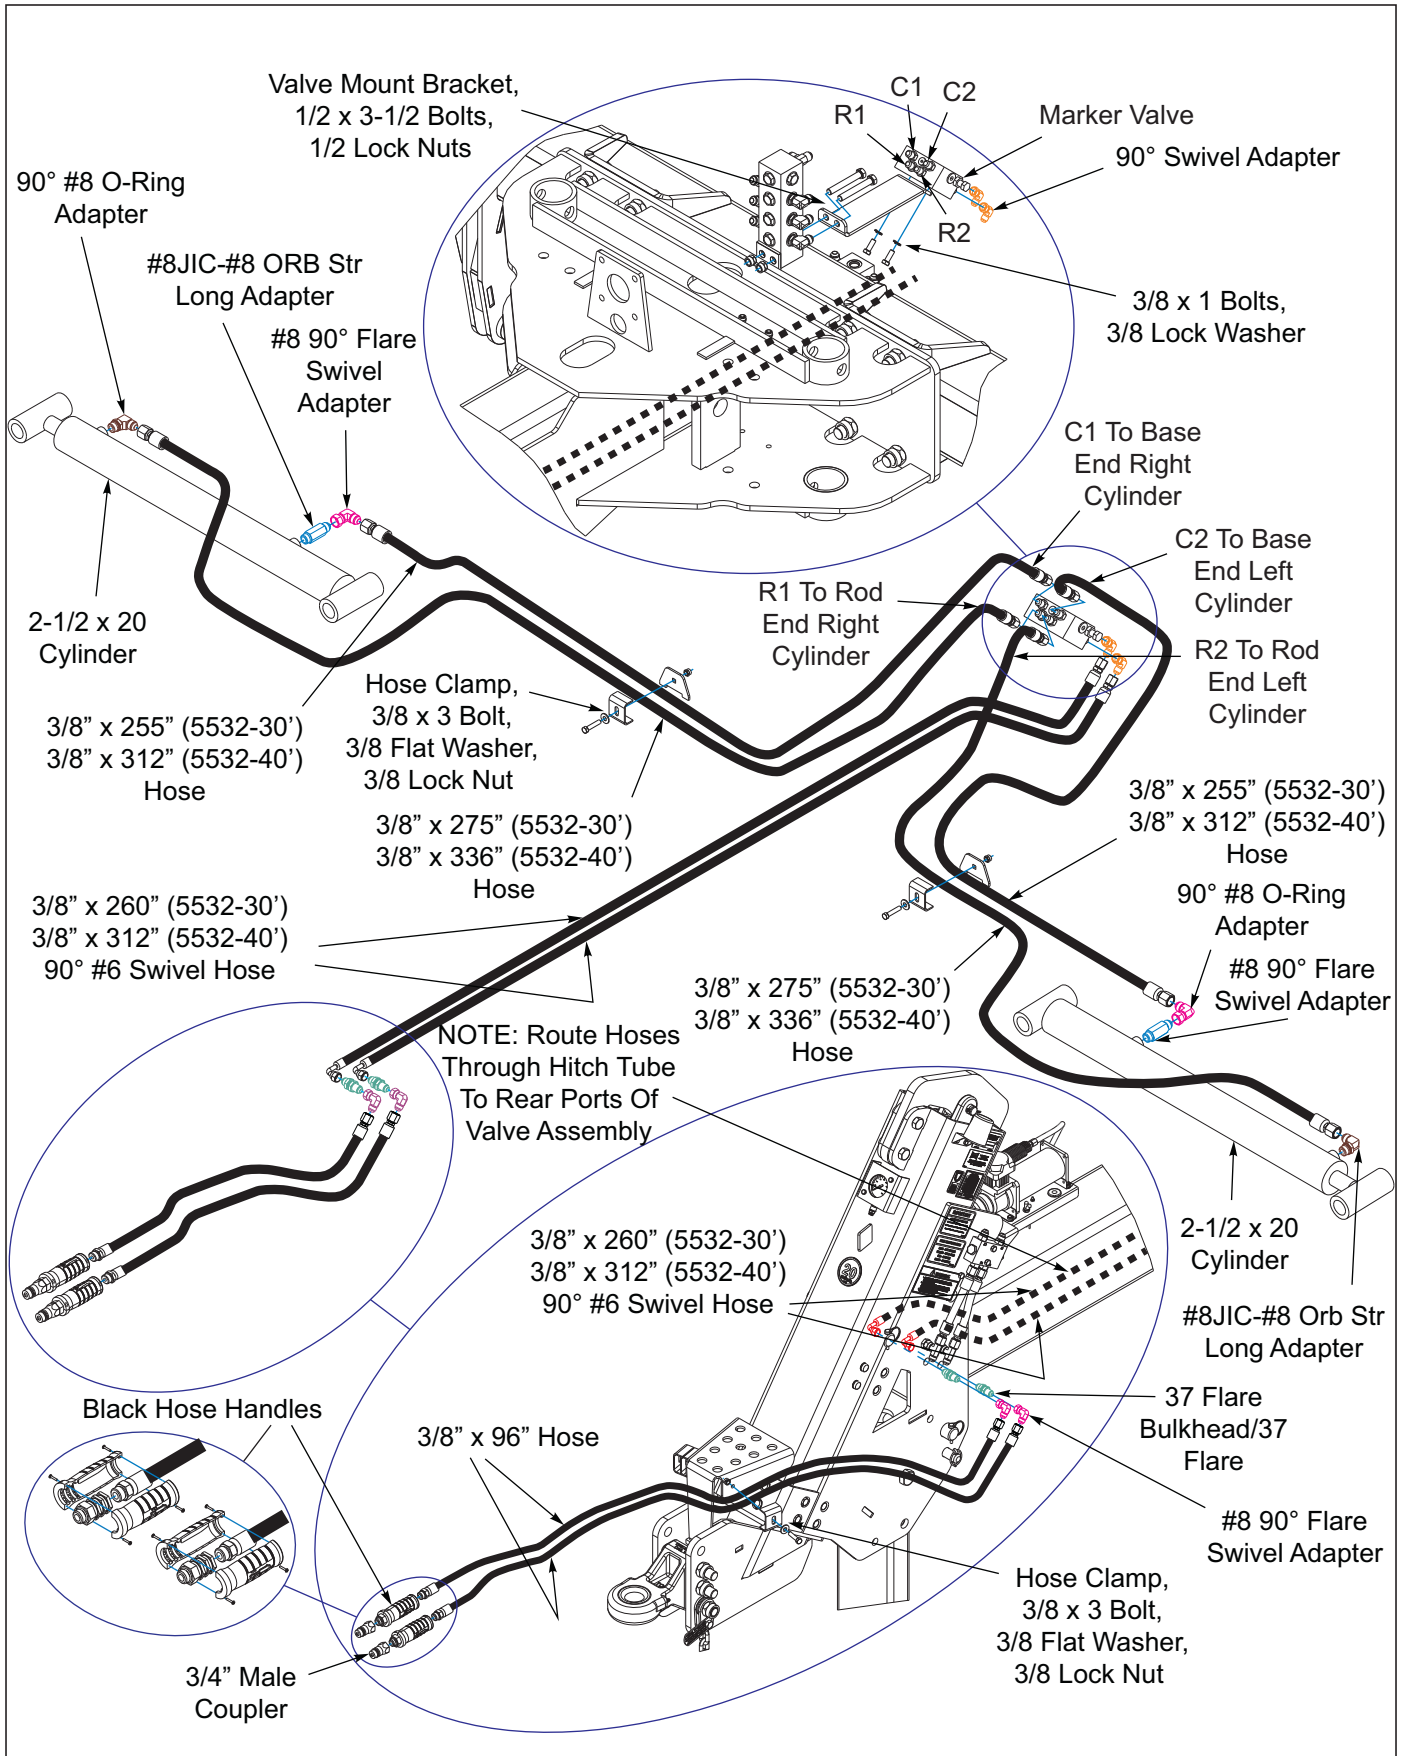

Figure 3-17: Marker Assembly Hydraulics
3. Locate the two unused bulkhead fitting holes on either side of the front of the hitch *See Figure 3-17*. Remove the hydraulic hose shield from that side of the hitch.
30. Install a 90-degree adapter in the rod end of each marker cylinder **See Figure 3-17**.
35. Attach a hose clamp to the left side of the hose holder plate on front of hitch and to rear frame plates using 3/8 x 3 bolt, 3/8 flat washer and 3/8 lock nut **See Figure 3-17**.